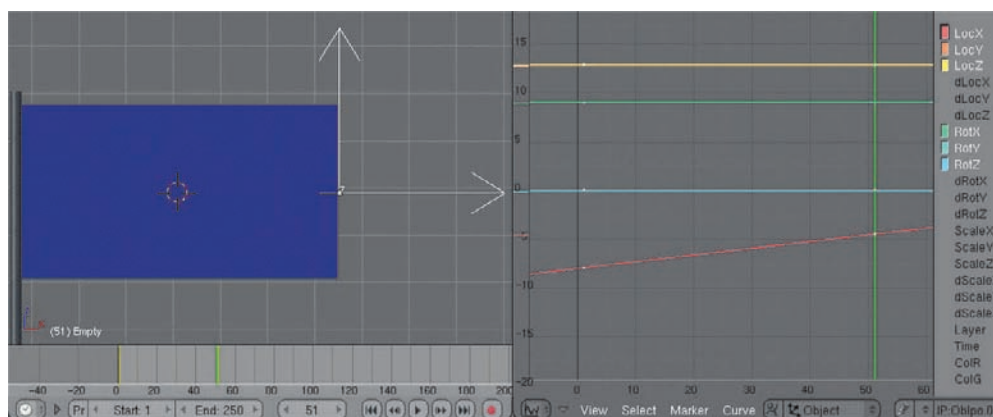

Figure 1.68 Keying an Ipo for the empty
7. The last thing that needs to be done is to add motion by animating the empty. Add a LocRot keyframe at frame 0 with the empty at its original position by pressing the I key. Advance 50 frames and translate the empty along its X axis to about the edge of the flag (it doesn't need to be perfect), and then add another LocRot keyframe. Select the LocX Ipo in the Ipo Editor and change its Extend mode to Extrapolation by choosing Curve > Extend Mode > Extrapolation in the header menu. The Ipos should look as shown in Figure 1.68.